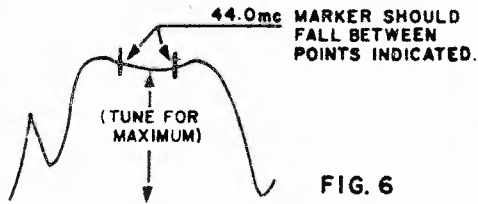

FIG. 6
14. Reduce output of generator until a usable display is produced on the oscilloscope and again adjust the tuner output coil (T-9), this time tuning for maximum gain midway between the peaks of the band-pass as indicated in Fig. 6. The 44.0 mc marker should fall between the tolerances indicated.